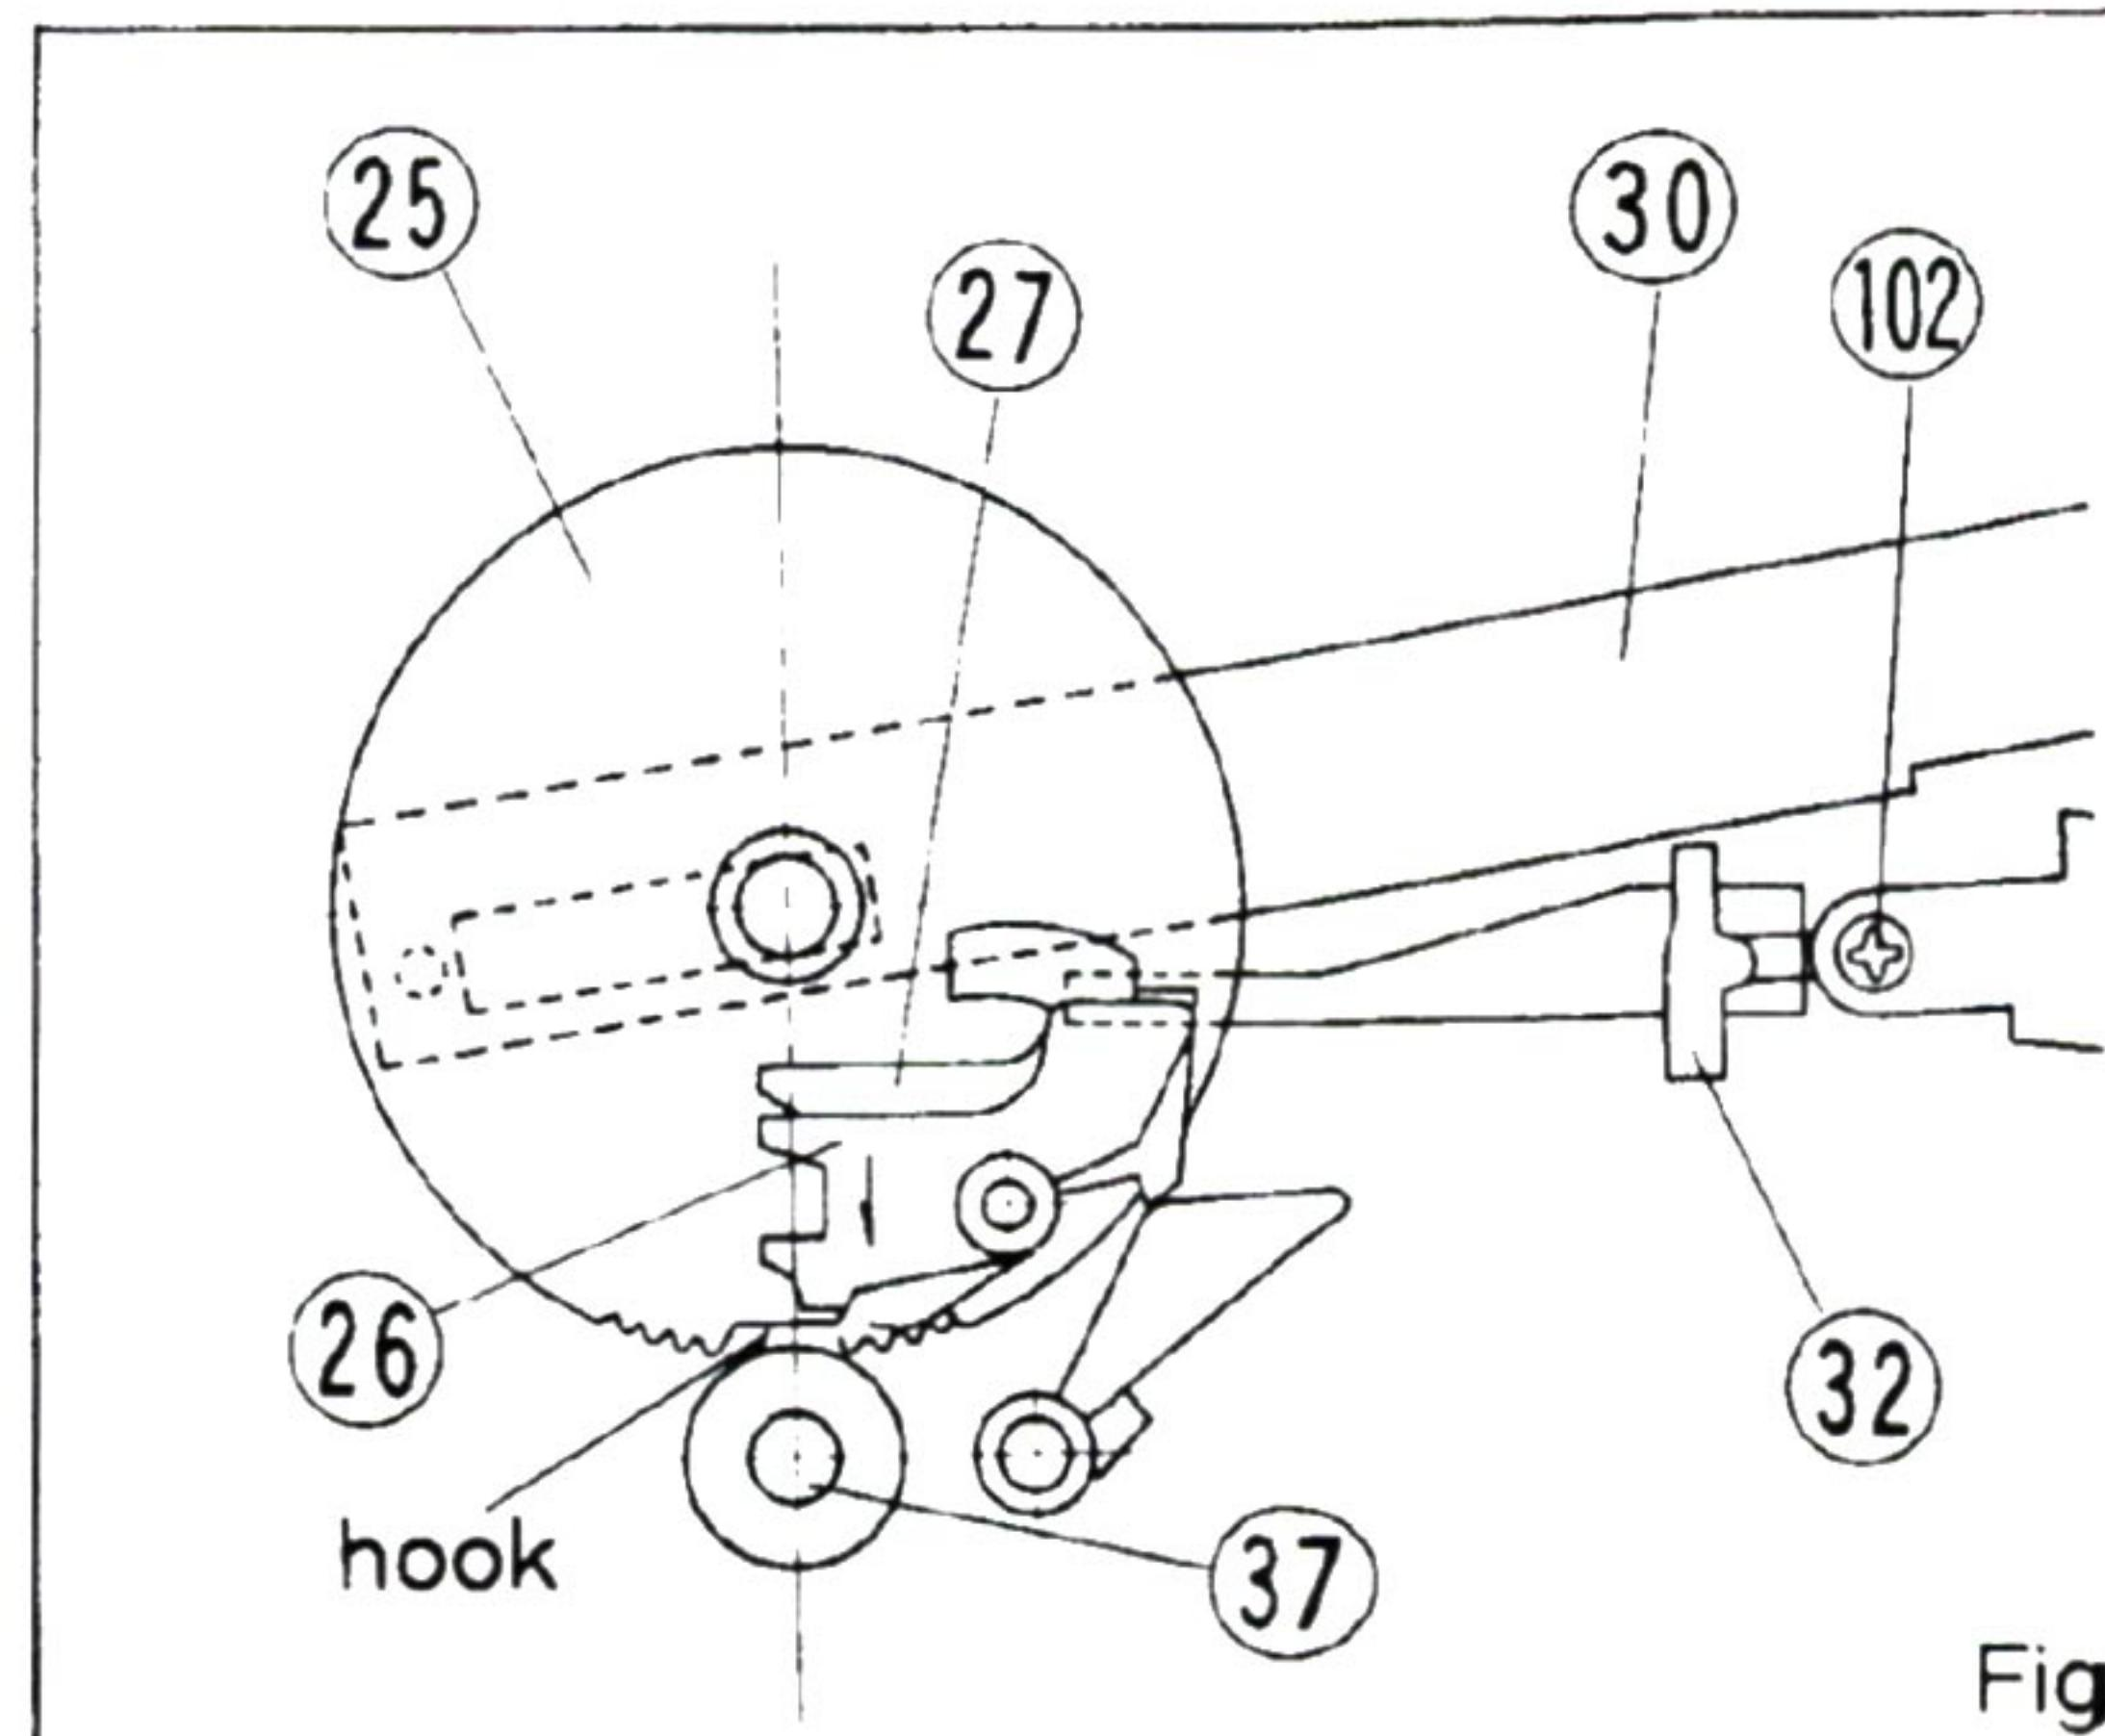

Fig. 3
- 1) Set CUEING Button (3) to the up position.
- 2) Turn the adjusting screw of Arm (32) so that Cam (27) trigger and hook of Turntable shaft (37) gear match with Stylus (42-1) tip between R61.5mm-62mm away from Turntable shaft (37) (Fig. 3).
- 3) After this adjustment check that Tonearm (43) returns to the original position at the end of the completed program on the disc.